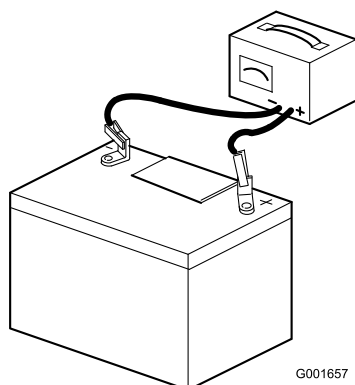

Figure 6
7. Connect a 3 to 4 A battery charger to the battery posts (Figure 6). Charge the battery at a rate of 3 to 4 A for 4 to 8 hours.